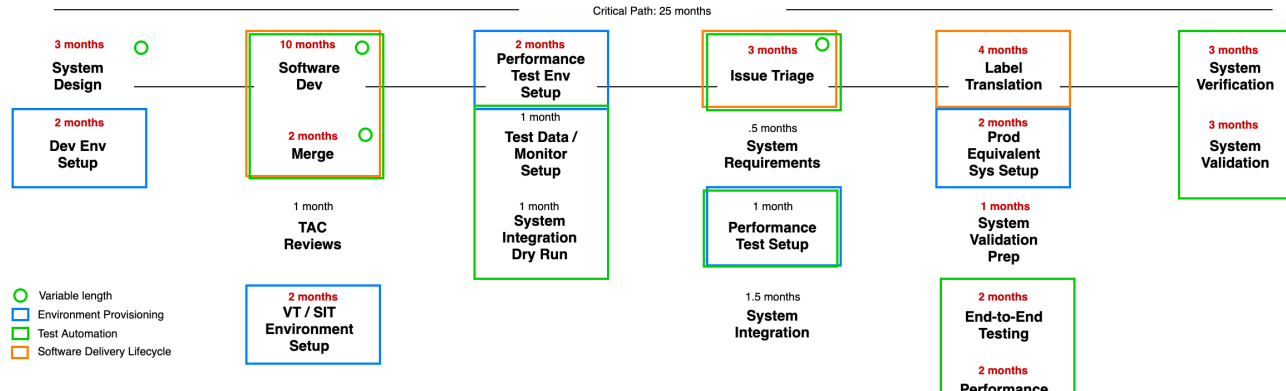

Figure 2: Timing established by surveying the group estimation 80th percentile duration of each step
- Test Automation [Figure 2: Green]: saving >10months
- Automated Environment Provisioning [Figure 2: Blue]: saving ~6months
- Software Delivery Lifecycle [Figure 2: Orange]: saving ~8months